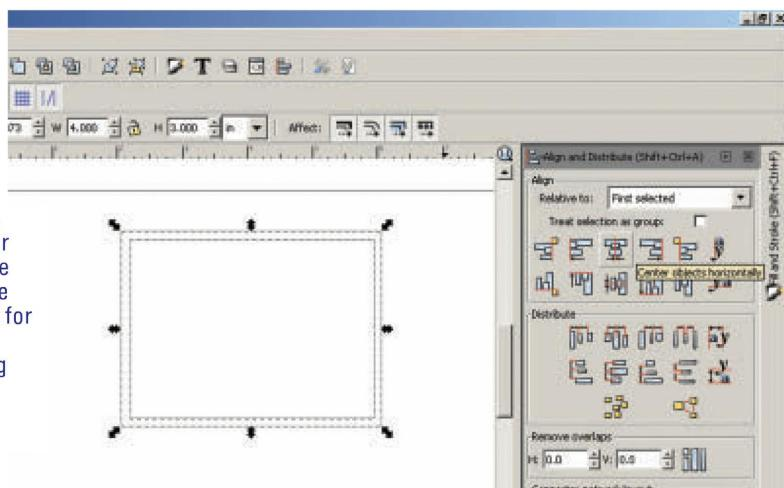

Figure 5. The inner rectangle forms the footprint for the four mounting screws.
4. Click both the Center Objects Horizontally and Center Objects Vertically icons (refer to **Figure 5**).